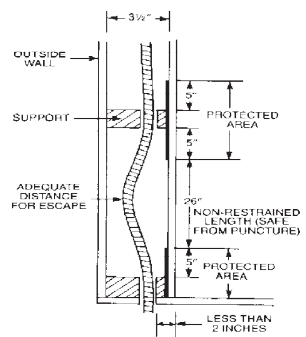

Figure 4.10 Elevated View of Unsupported Horizontal Tubing Run
1. At support points and areas of possible penetration less than 2 inches away from any edge of a stud, joist, plate, etc., shielding is required both at the area of support and within 5 inches of each side. (Figure 4.10)